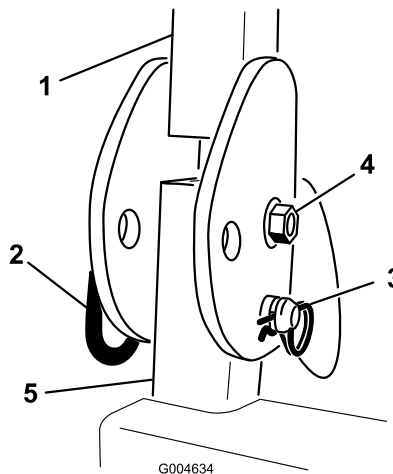

Figure 2
3. Install the bolt, nut, hair pin cotter and pin securing each ROPS assembly to the ROPS posts (Figure 2). Torque the nut and bolt to 67 to 83 ft-lb (91 to 113 N-m).